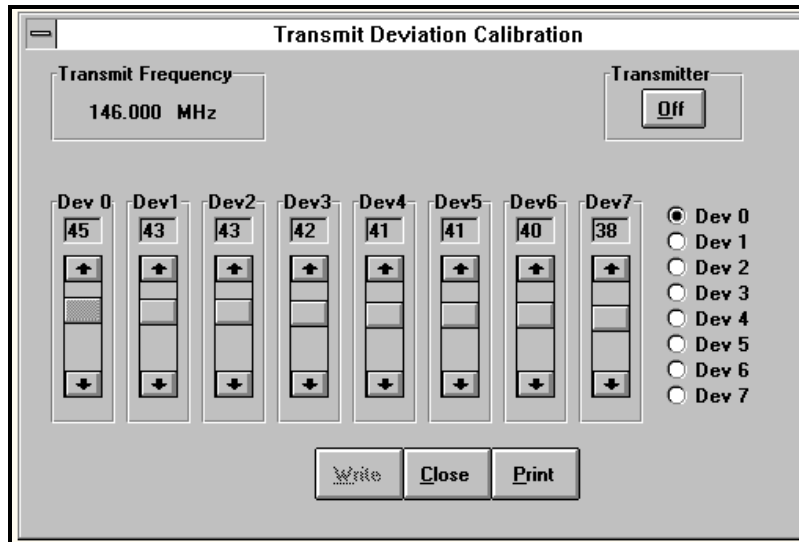

Figure 7.3 – Transmit Deviation Calibration
1. Select "Transmit Deviation Calibration" from the Service dropdown menu. The service adjustment window is shown in Figure 7.3.